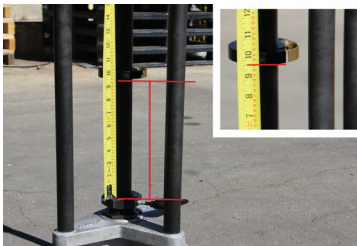

Figure 3
A) Install stop collar onto the saw mandrel. Set the bottom of the stop collar to 6.25” from the top of the packing nut assembly (see Figure 3). Tighten stop collar.